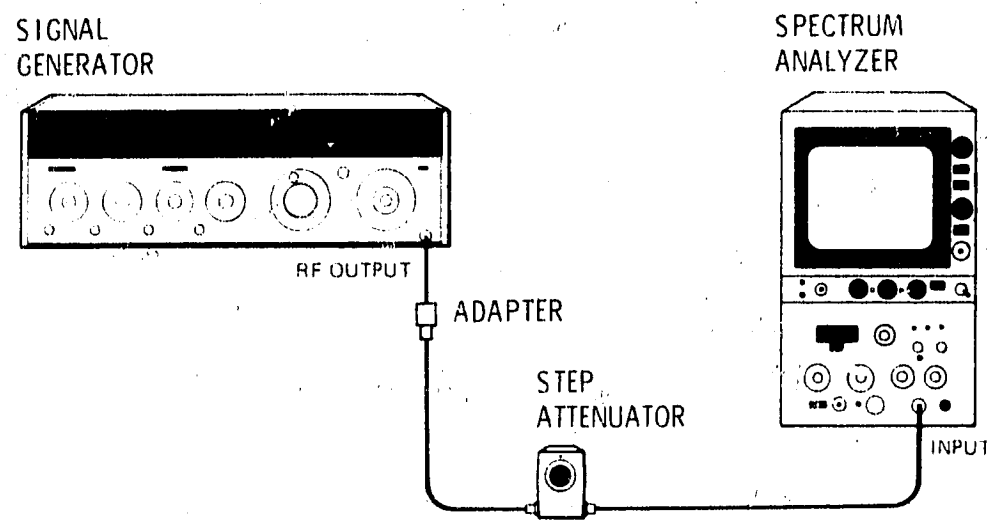

Figure 4-20. Reference Level Accuracy Test Setup
2. Connect equipment as shown in Figure 4-20 with step attenuator set at 0 dB. Locate signal on CRT.